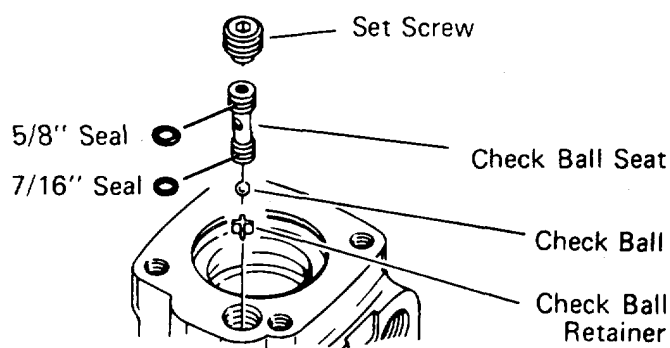

Figure 12
1. Use a needle nose pliers to lower check ball retainer into check valve hole of housing. Make sure retainer is straight (not tilted on edge) in housing, see Fig. 12.
3. Lubricate 5/8" diameter seal and 7/16" diameter seal. Install seals on check ball seat as shown in Fig. 12.
4. Lubricate check ball seat and seals thoroughly before installing seat in housing. When installing seat do not twist or damage seals. Install check ball seat in housing, insert open end of seat first, see Fig. 12. Push check ball seat to bottom of hole.